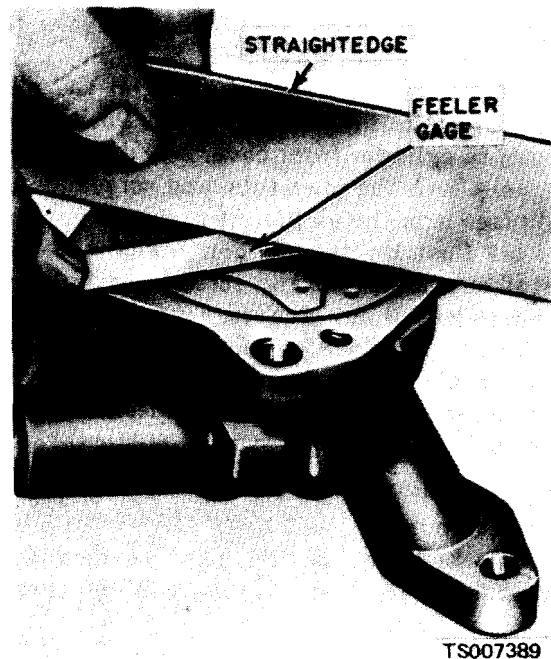

Figure 6-60. Measuring Rotor End Play.
(5) With the rotor assembly installed in the housing, place a straightedge over the rotor assembly and the housing. Measure the clearance (rotor end play) between the straightedge and the rotor and outer race (fig. 6-60). The outer race, shaft and rotor are replaceable only as an assembly.